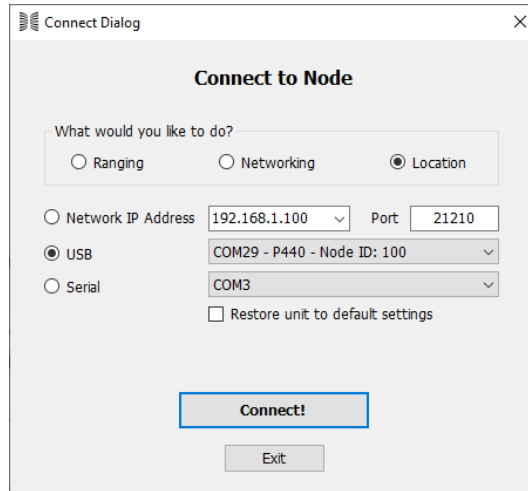

Fig. 7: RangeNet GUI connect screen after USB connection
- Connect the USB cable from the P440 USB port to the Host computer. A system message should appear indicating that the system has identified a new connection and the correct driver is being connected. This could initially take as long as two minutes but is normally concluded in a few seconds. Once that process is complete, the RangeNet GUI will indicate which COM port is connected to the P440. This is illustrated below in **Figure 7**.